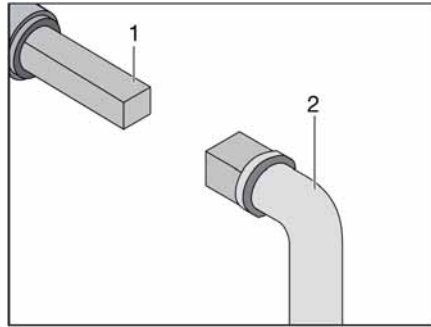

Fig. 288 Operation of the waste water tap
- Place key (Fig. 288,2) onto the square bolt (Fig. 288,1).